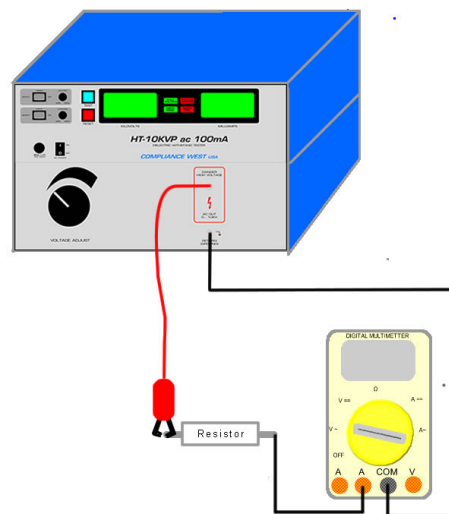

Figure 4-2. Current Measurement with 1000 W High Voltage Resistor.
2. Connect the output of the HT-10KVP ac 100mA through a 1000 watt high voltage load resistor (100k Ω) in series with an external current meter returning to the Return jack on the front panel of the HT-10KVP ac 100mA as is shown on figure 4-2.
2. Connect the output of the HT-10KVP ac 100mA unit through a 1000 watt high voltage load resistor (100k Ω) in series with an external current meter returning to the Return jack on the front panel of the HT-10KVP ac 100mA as is shown on figure 4-2.
5. Turn the Voltage Adjust on the front panel to minimum. Press the **Test** button and a leakage number will be displayed on the front panel meter (80). Be careful as the HT-10KVP ac 100mA will be putting out voltage at this point.
8. Turn the Voltage Adjust on the front panel to minimum. Press the **Test** button and a leakage number displayed on the front volt panel meter (10). Be careful as the HT-10KVP ac 100mA will be putting out voltage at this point.